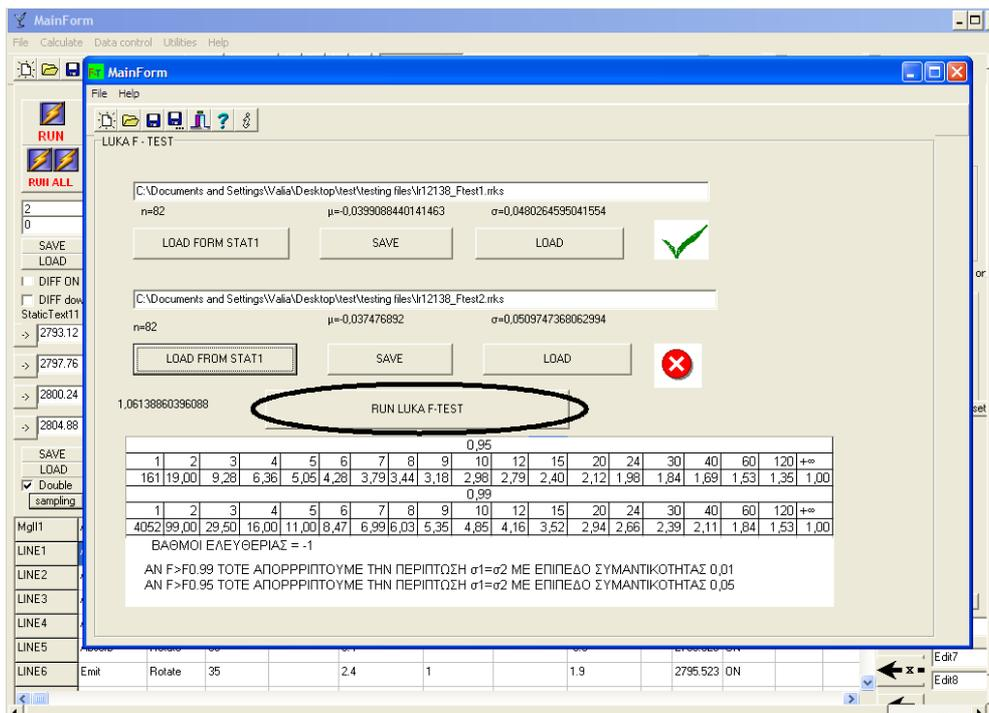

Figure 4.9
- (j) Next to the data of the two theoretical profiles the following symbols appear (Figure 4.9):
- (k) Click on the  button, in order to call the F-Test (Figure 4.9).